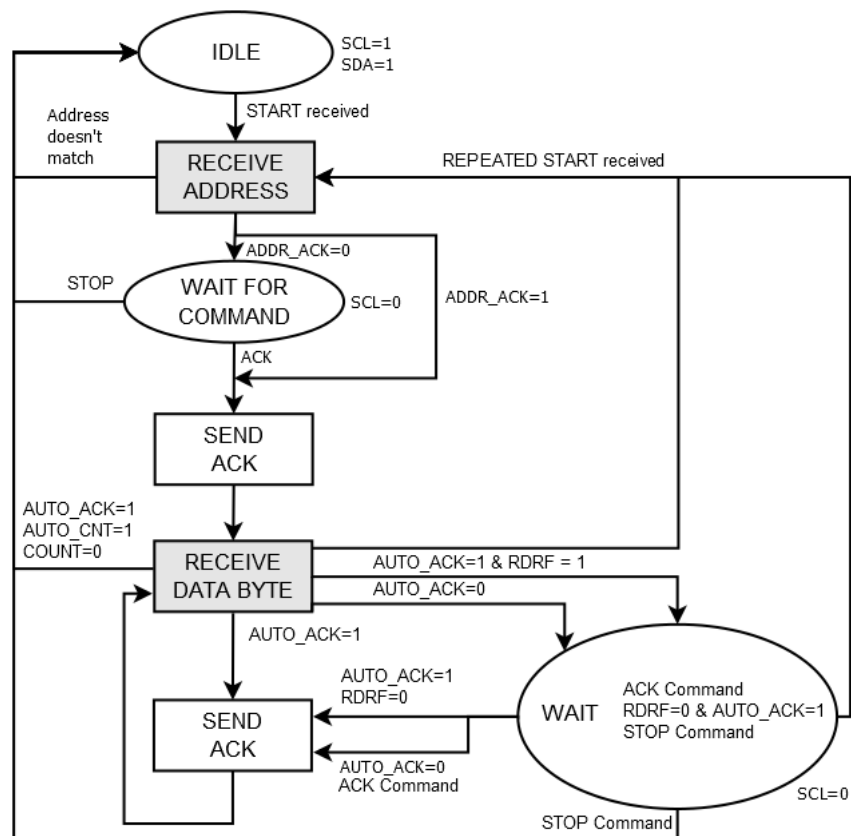
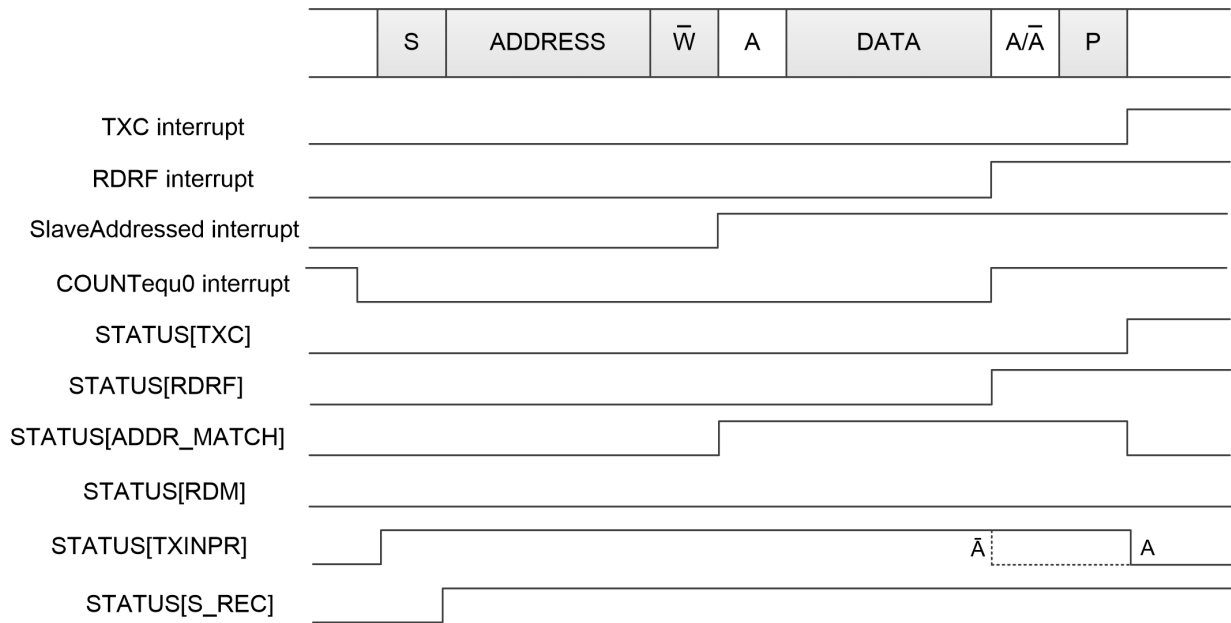
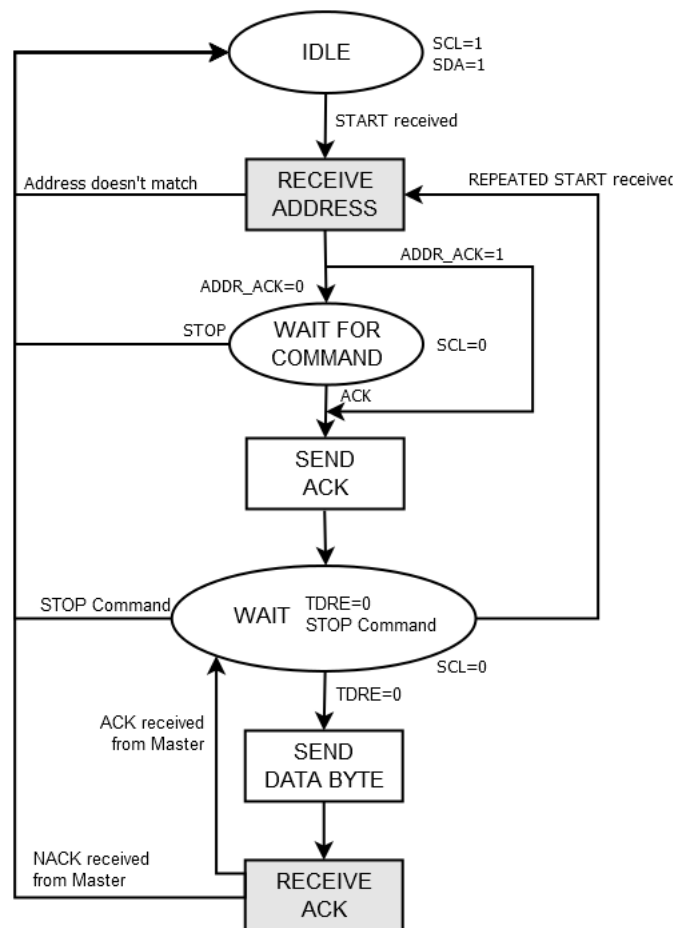
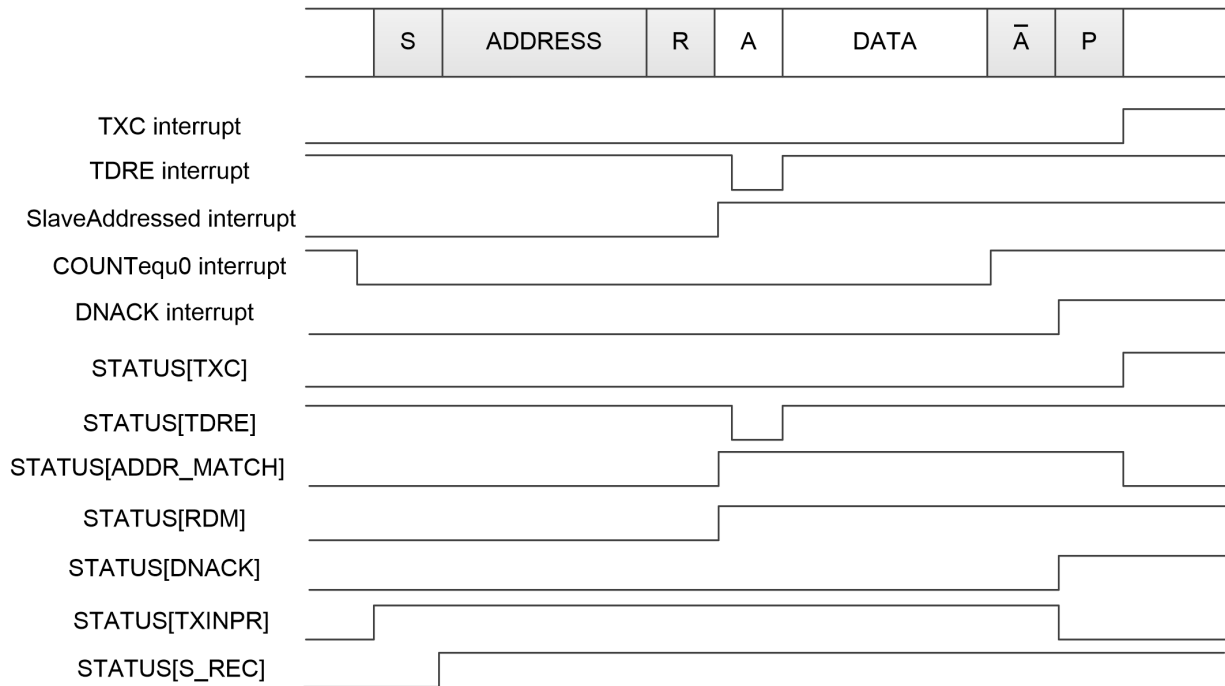

Figure 1.9. Slave reception algorithm.
Figure 1.10. Reception of a single byte of data (ADDR_ACK = 1, AUTO_ACK = 1, AUTO_CNT = 1).
Figure 1.13. Slave data transmission algorithm.
Figure 1.14. Send a single byte of data
ACK The ACK command has a different meaning, depending on the configuration of the module and its current state (Figure 1.9, Figure 1.13). At the address sending stage, when automatic address acknowledge is disabled ($\text{ADDR_ACK} = 0$), ACK command is used to trigger sending of ACK bit to the Master. At the data transfer stage (Slave reception mode), when automatic data acknowledge is disabled ($\text{AUTO_ACK} = 0$), ACK command is used to send ACK bit to the Master. In all other cases, ACK command has no effect.
Figure 1.9 shows a status diagram for the slave reception operation, including possible module configuration variants, and Figure 1.10 shows how the transmission status is reported when receiving a single byte.
Address reception After configuration, module monitors SDA and SCL inputs to detect start condition. When start condition is detected (indicated in Status (1.7.2) Register), Slave module receives address byte and compares it to addresses set in the Address (1.7.8) Register (1.7.8). If matching address is detected (Figure 1.10), module indicates this fact through Slave Addressed interrupt. If ADDR_ACK = 1, Slave responds by sending ACK bit (Figure 1.9). Otherwise module awaits for ACK or STOP command from the firmware. If received address doesn't match, module releases the bus (and thus effectively sends NACK).
Receiving data As soon as Slave acknowledges receipt of the address, Master starts transmitting the first byte of the data. The reception is signaled by setting the RDRF bit in the Status (Figure 1.14) Register. The next actions of the module depend on the configuration of the automatic data transmission modes:
Figure 1.13 represents a status diagram for Slave transmission, while Figure 1.14 shows how transmission status is reported when transmitting a single byte.
Address reception After configuration, module monitors SDA and SCL inputs to detect start condition. When start condition is detected (indicated in Status (1.7.2) Register), Slave module receives address byte and compares it to addresses set in the Address (1.7.8) Register. If matching address is detected (Figure 1.14), module indicates this fact through Slave Addressed interrupt. If ADDR_ACK = 1, Slave responds by sending ACK bit (Figure 1.13). Otherwise module awaits for ACK or STOP command from the firmware. If the received address doesn't match, module releases the bus (and thus effectively sends NACK). There's no indication (other than the START bit in Status Register) of the address mismatch.
Data Transmission After acknowledging received address, module awaits data bytes to be written into the TDR (1.7.9) register. Throughout this time, SCL line is held in a low state, to prevent the master from starting byte reception. This fact is indicated by SCL HOLD bit being set in Status (1.7.2) Register. Once the data is saved to the TDR register (Figure 1.14), it is transmitted immediately. At the same time, the TDR register is emptied so that another data byte can be written. Module then increments (or decrements) the Count Register and waits for the ACK bit from the Master device. The received ACK/NACK bit is reported in the Status Register (Figure 1.14). If the ACK bit (0) is received, the controller waits for the next data byte to be written to the TDR register (1.7.9). If the NACK bit (1), the module will release the bus (by setting high level on SCL and SDA outputs) and wait for Start or Stop bit.